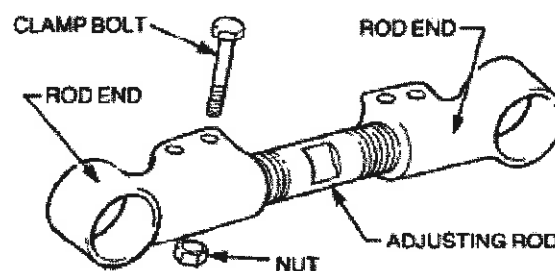

Figure 38 Adjustable Radius Rod
b. Slacken the four radius rod end clamp bolts (Figure 38).